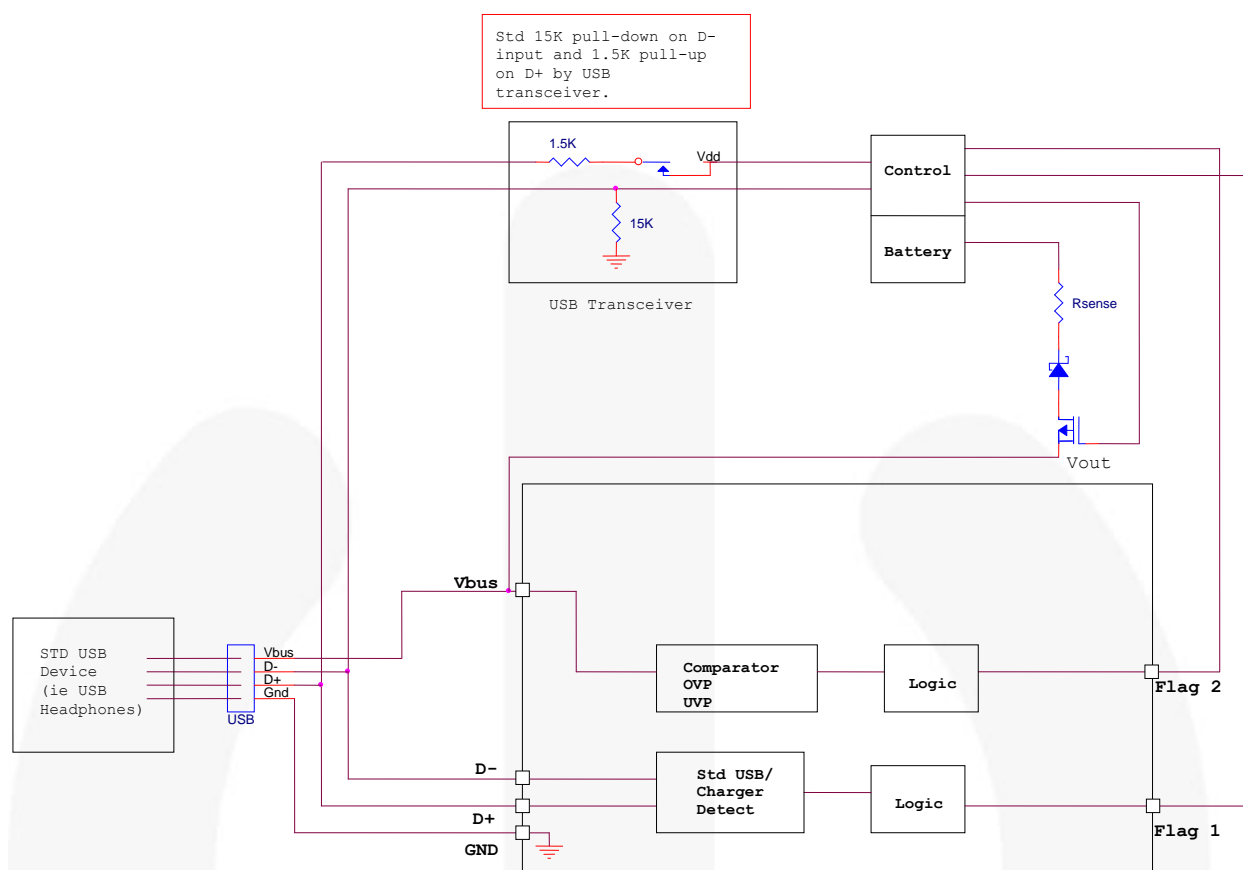

Figure 7. Typical Application System with USB Transceiver
2. See Figure 7.
With USB Transceiver (Figure 7)